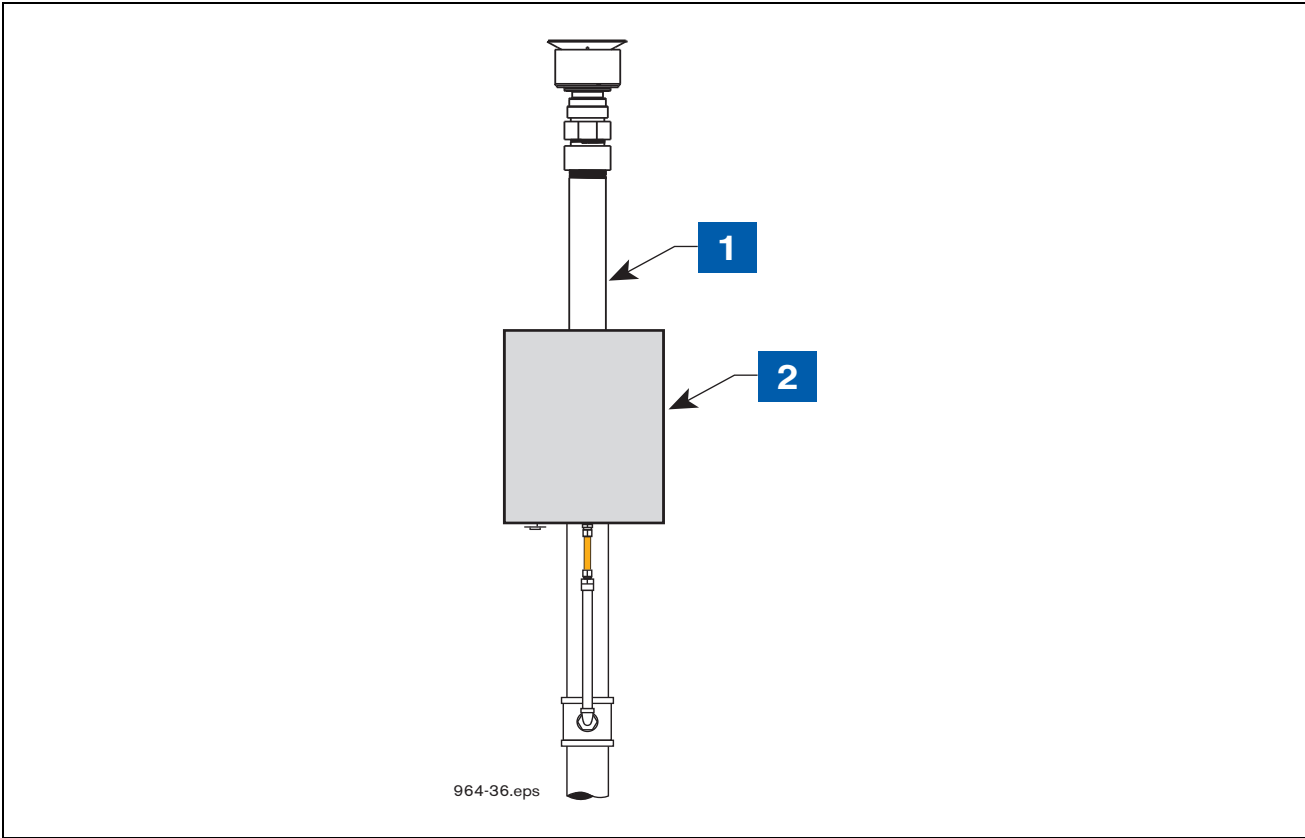

Figure 18. VRPS Mounted In Universal Enclosure On The Vent Stack
1. A Transmitter/battery pack pair must be installed with the Veeder-Root Vapor Return Pressure Sensor (VRPS) in the Universal Enclosure and mounted on the vent stack (see Figure 18).
LEGEND FOR NUMBERED BOXES IN Figure 18